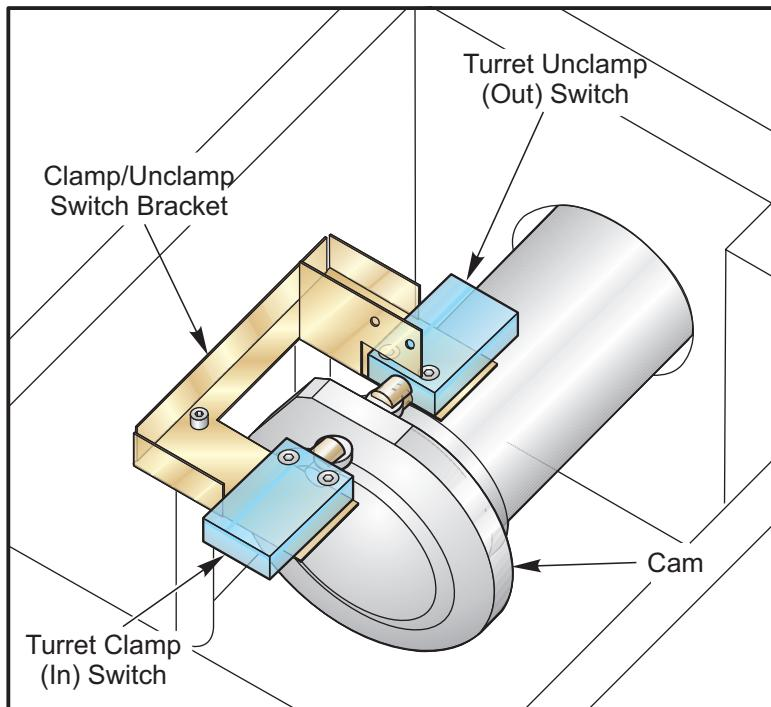

Figure 3.1-6. Turret Clamp/Unclamp switches.
- e. If either switch does not trip when the gage block is in place, the switches need to be adjusted. Adjust the switches by loosening the two SHCS and moving the entire switch bracket; DO NOT move the individual switches unless absolutely necessary. Refer to Figure 3.1-6.